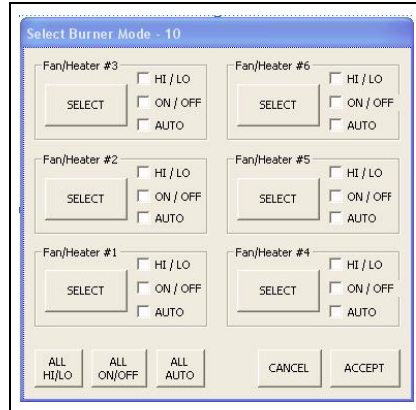

Figure 5R
6. **Burner Mode:** The  button will display the “Select Burner Mode” screen. (See Figure 5R.)